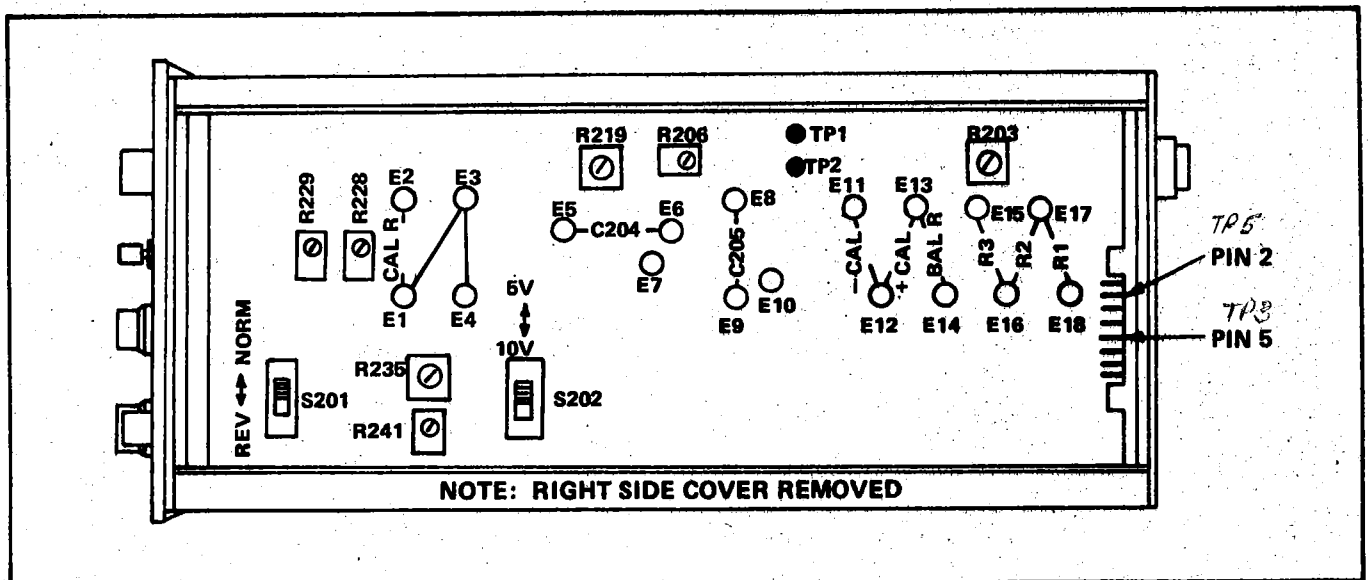

FIGURE 5-1 CALIBRATION COMPONENT LOCATIONS
3. Remove right side cover from preamp (Figure 5-1).
5. Measure voltage at TP1 to Pin 5 (common). It should be approximately 10 Volts (Figure 5-1).
6. Measure voltage at TP2 to common. It should be approximately 10 volts. (Figure 5-1).
2. Connect voltmeter to the output (pins 2 & 5). Set the output to zero (0) volts $\pm 5\text{mv}$ with R219 (Figure 5-1).
4. Set the % LOAD FULL SCALE switch to the 5% position and use R206 to set the output to zero (0) volts $\pm 50\text{mv}$. (Figure 5-1).
5. Tie the "+" and "-" inputs (E11 & E13) together and apply a 10 volt peak-to-peak 60Hz signal between the inputs and common (pin 5). Connect an oscilloscope to the output (pins 2 & 5) and adjust R203 for a minimum output. (Figure 5-1).
3. Set the 5-10 volt switch, S202, to the 5V position and the Normal-Reverse switch, S201, to the NORMAL position. Use R241 to adjust the voltage to $+5.0\text{V} \pm 5\text{mv}$. Noise should be less than 5mv peak-to-peak (See Figure 5-1).
5. Set S202 to the 10.0V position. Use R235 to set the voltage to $+10.0\text{V} \pm 10\text{mv}$. Noise should be less than 10 mv peak-to-peak (See Figure 5-1).
3. Monitor the output (pins 2 & 5) with a voltmeter. Be sure output reads zero volts ± 5 mv. Adjust R219 as required (See Figure 5-1).
4. Turn SUPPRESSION VERNIER to 10.0 and lock. Apply a $+10.0\text{mv} \pm 0.05\%$ DC signal to the input (E11/E13). Set the -VOLTS+ switch to the +0.01 position and use R228 (Figure 5-1) to set the output to read 0.00 Volts ± 5 mv.
6. Apply a +100.0 mv \pm 0.05% DC signal to the input. Set the -VOLTS+ switch to +0.1 and use R229 (Figure 5-1) to set the output to read 0.00 Volts \pm 50mv.
4. Place plug-in capacitors C204 and C205 in the circuit by inserting in terminals E5 and E6, and E8 and E9. (See Figure 5-1).
4. Place a 15K ohm resistor between the CAL R terminals (E1-E2) and a 15K ohm resistor between BAL R terminals (E13-E14) on the P.C. board (see Figure 5-1).
10. Change S201 (Figure 5-1) to the REVERSE position and repeat Step 7. Output should read approximately -4.9 volts. Return S201 to the NORMAL position.
13. With the SHUNT CAL pushbutton depressed, use a screwdriver to rotate the front panel SHUNT TRIM Pot from the extreme counterclockwise position to the extreme clockwise position (approx. $4\frac{1}{2}$ turns). The output should read approximately +4.9 volts (CW) to +1.8 volts (CCW). Return the TRIM pot to its center position, approximately +2.7 volts on the output.